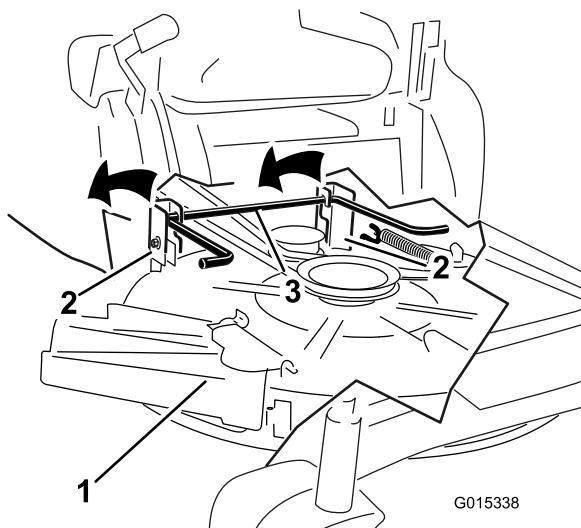

Figure 57
- 5. Lift the mower deck and hanger brackets clear of the rear lift rod, and lower the mower carefully to the ground (Figure 57).
5. Lift the rear of the mower deck and guide the hanger brackets over the rear lift rod (Figure 57).